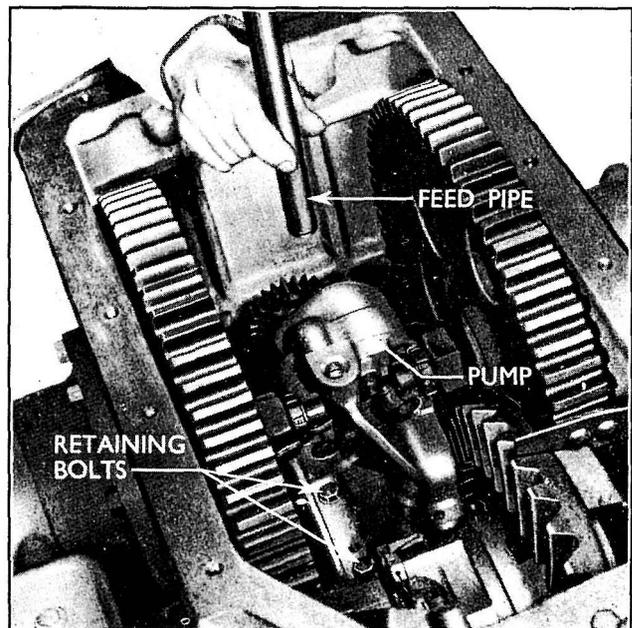

Fig. 179
- 11 Mount the hydraulic pump in position, securing with the three bolts. Locate the oil feed pipe (9 ins. long) from pump to ram cylinder with a new oil seal fitted at each end (see Fig. 179).